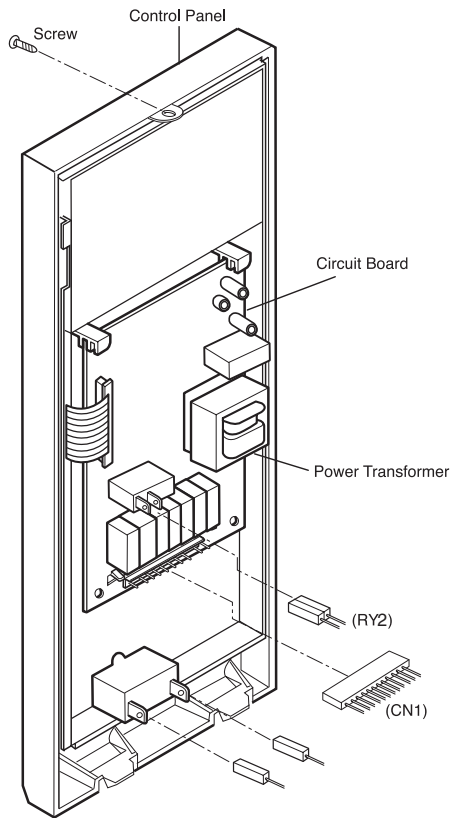

Figure 1
A. REMOVING POWER AND CONTROL CIRCUIT BOARD (Figures 1, 2 and 3)
- (1) Remove a screw securing the control panel assembly to the oven cavity.
- (2) Remove the control panel with pushing it upward.
- (3) Remove the connectors (CN1) and wire leads (RY2) from the circuit board.